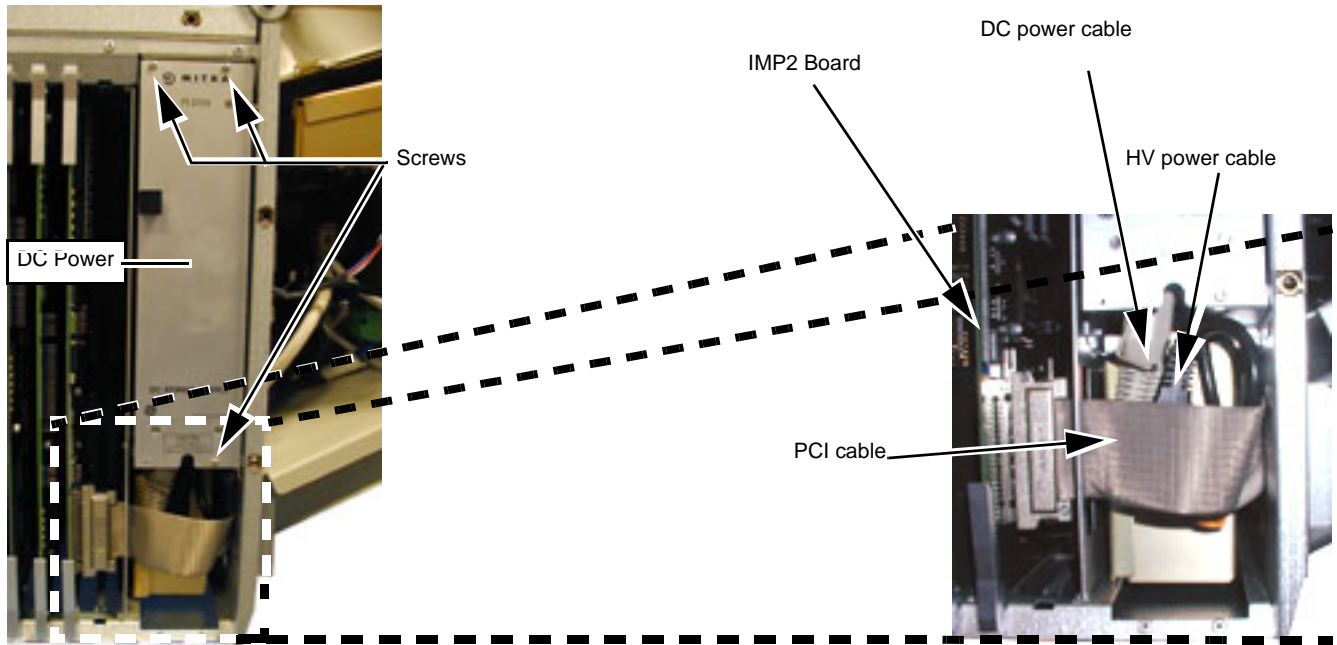

Figure 8-83 DC Power and Cabling.
- 1.) Unscrew three (3) screws as shown in Figure 8-83.